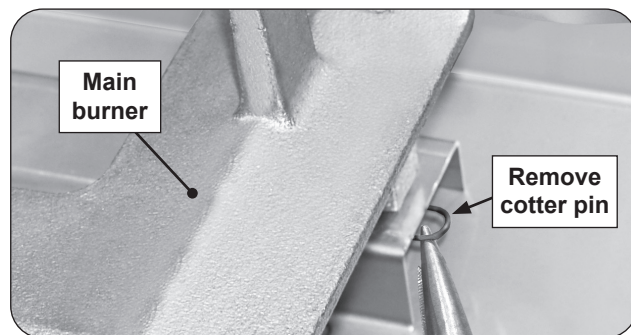

Fig. 43-2 Remove cotter pin
2. Locate and remove the cotter pin from the left or right rear burner anchoring peg by pulling it straight out of the cotter pin hole using fingers or needle-nose pliers. See Fig. 43-2.